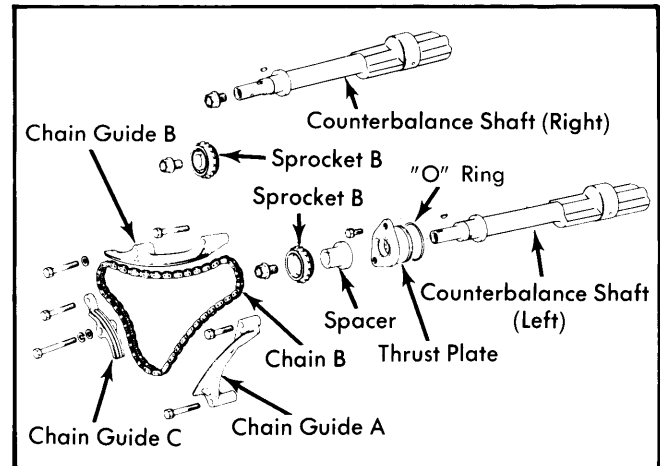

Fig. 12 Exploded View of Counterbalance Shafts and Drive Chain (2000 and 2600 cc)
Removal—Remove crankshaft pulley and timing chain case. Remove chain guides A, B, and C, sprocket B locking bolts and crankshaft sprocket (B). Remove both countershaft sprockets (B) and drive chain. See Figs. 12 and 13.
Installation — Refer to Figs. 12 and 13 for component location and reverse removal procedure. Ensure that mating marks on sprockets align with plated links on counterbalance chain. Adjust tension by installing guides A and C, then shake counterbalance shaft sprockets to take slack from chain. Adjust guide B so there will be .040-.140" (1.0-3.5 mm) clearance between guide and chain at point P. Tighten guide mounting bolts and complete assembly.